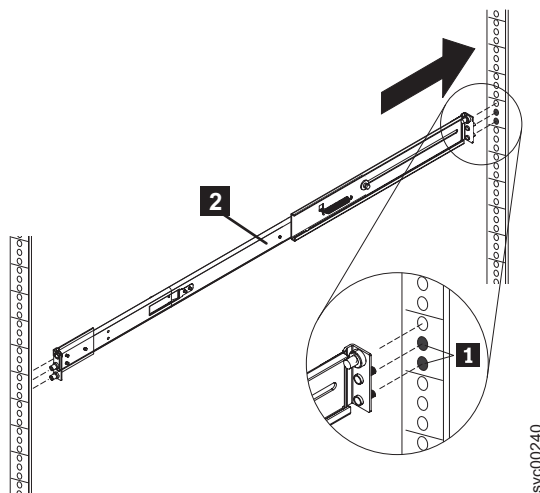

Figure 27. Inserting the right slide rail into the rear rack mounting flange
3. Insert the right slide rail **2** into the rear rack mounting flange, as shown in Figure 27, with the rail pins **1** protruding through the flange.